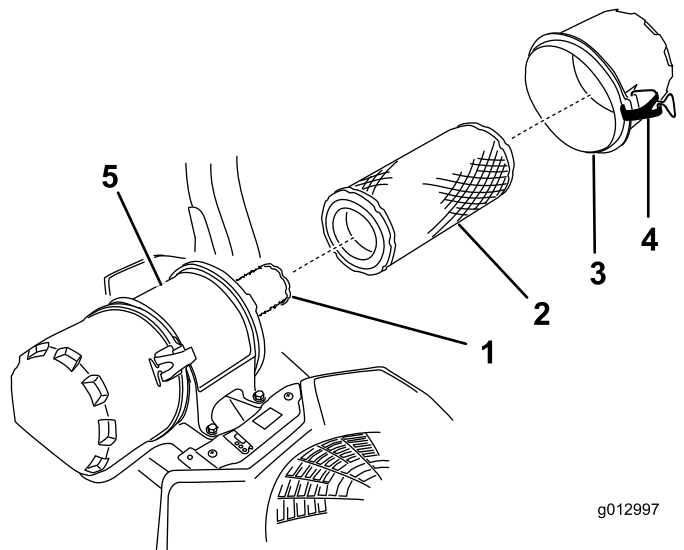

Figure 34
6. Release the latches on the air cleaner and pull the air-cleaner cover off the air-cleaner body (Figure 34).
8. Gently slide the primary filter out of the air-cleaner body (Figure 34).
2. If the inner filter is being replaced, carefully slide it into the filter body (Figure 34).
3. Carefully slide the primary filter over the inner filter (Figure 34).
4. Install the air-cleaner cover and secure the latches (Figure 34).